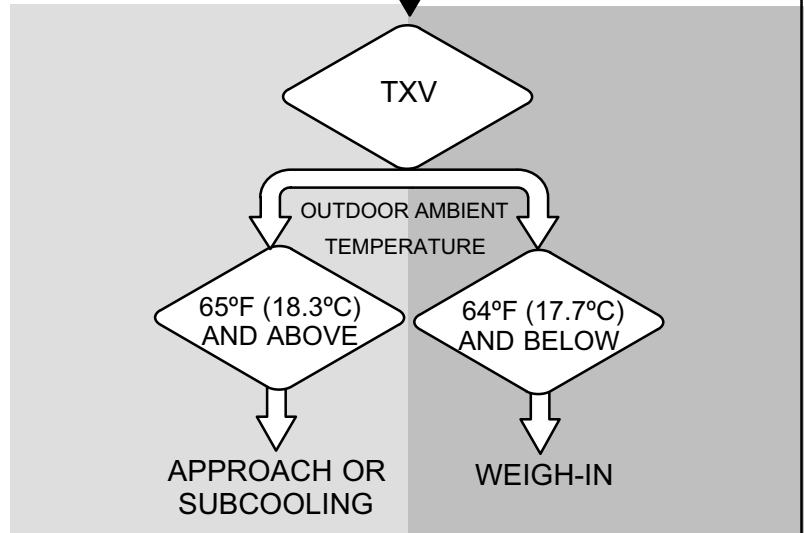

Figure 17. Determining Charge Method
2. Determine the best method for adding or removing refrigerant as outlined in figure 17.